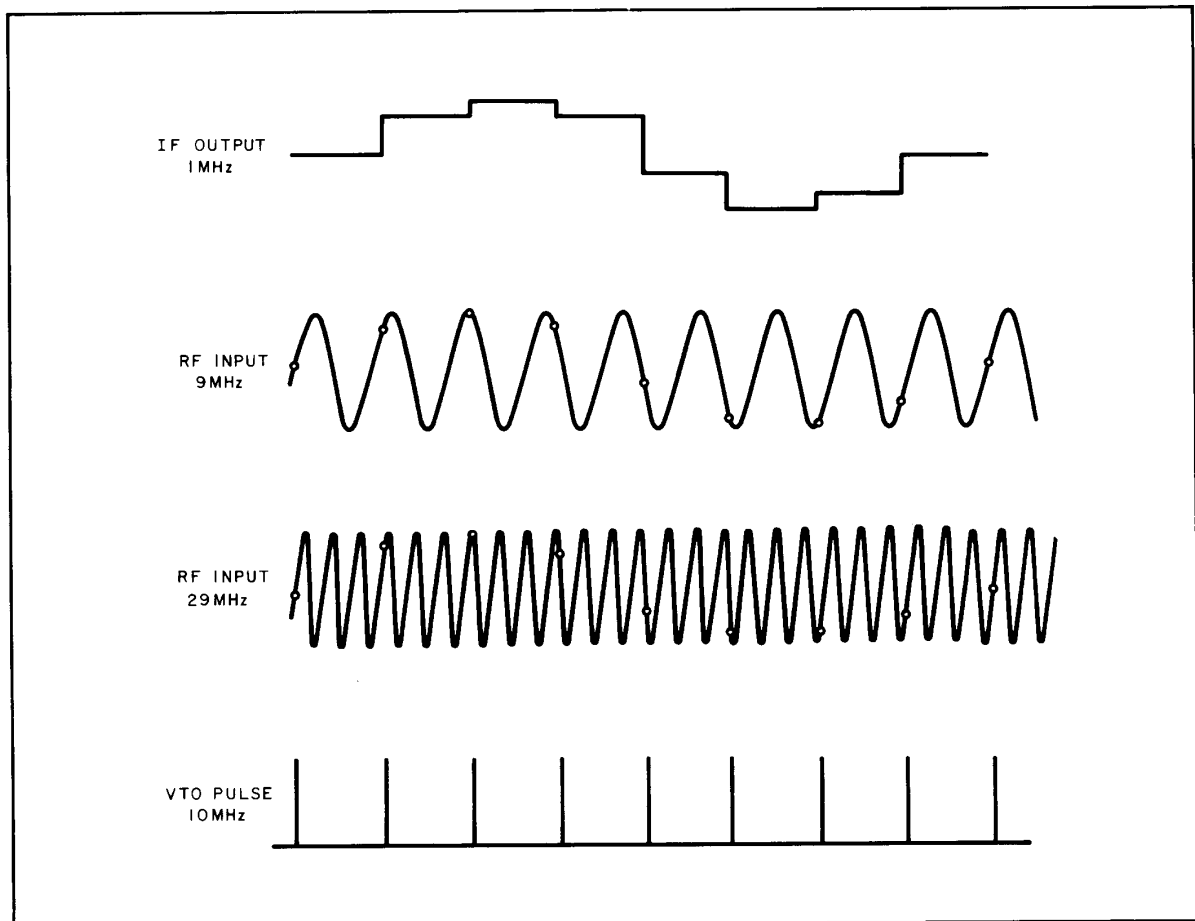

Figure 8-46. Developing an IF Output With Sampling
Figure 8-46 shows the development of an IF frequency for more than one RF Source frequency with the VTO repetition rate held constant. In this example, the VTO is operating at 10 MHz and a 1 MHz IF output is produced for RF frequencies of 9 MHz and 29 MHz. Actually, an IF output is produced for each RF frequency that is 1 MHz higher or lower than a multiple of the VTO repetition rate. In general, the relationship between the input and output frequencies of a sampler can be calculated as follows:
- An RF frequency of 29 or 31 MHz mixes with the third harmonic of the VTO to produce a 1 MHz IF (See Figure 8-46).